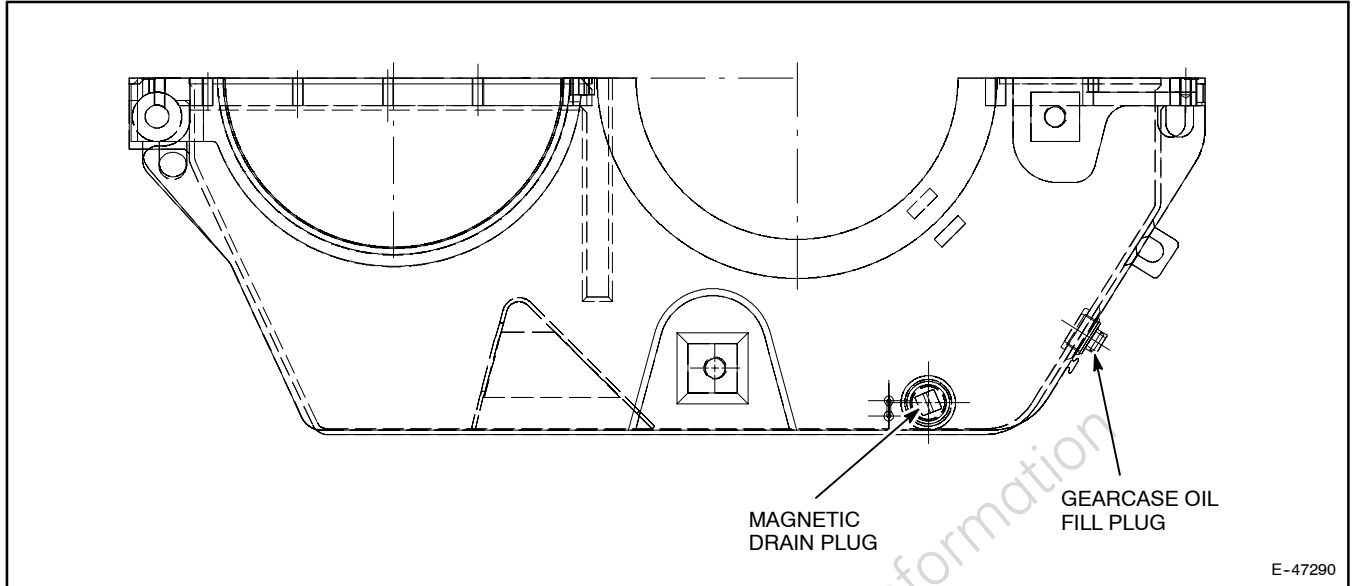

Figure 14. Gearcase With Oil Fill Plug.
1. Remove the drain plug located at the side of the bottom gearcase (Figure 14).